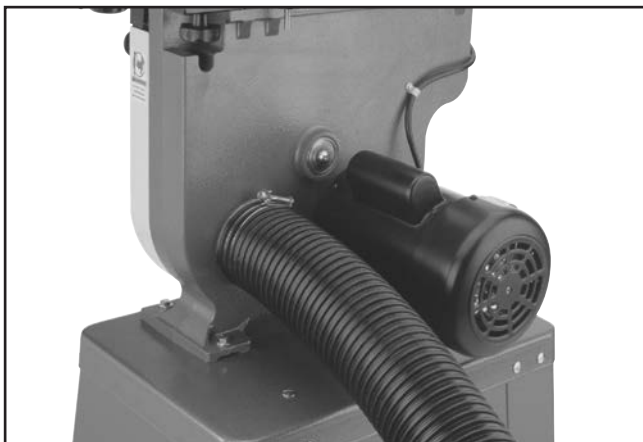

Figure 17. Dust hose attached to dust port.
1. Fit 4" dust hose over dust port, as shown in **Figure 17**, and secure in place with a hose clamp.